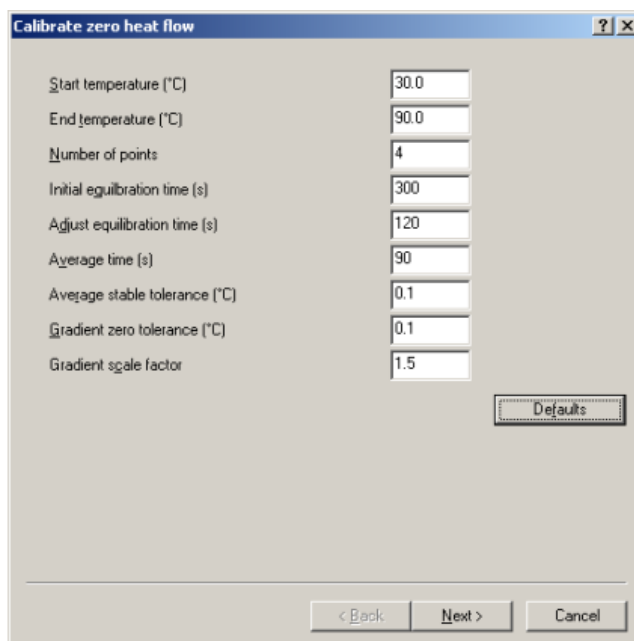

Figure 7.13
3. Click **Calibrate**. The **Calibrate Zero Heat Flow** window, shown in Figure 7.13 shown to the right, will be displayed.